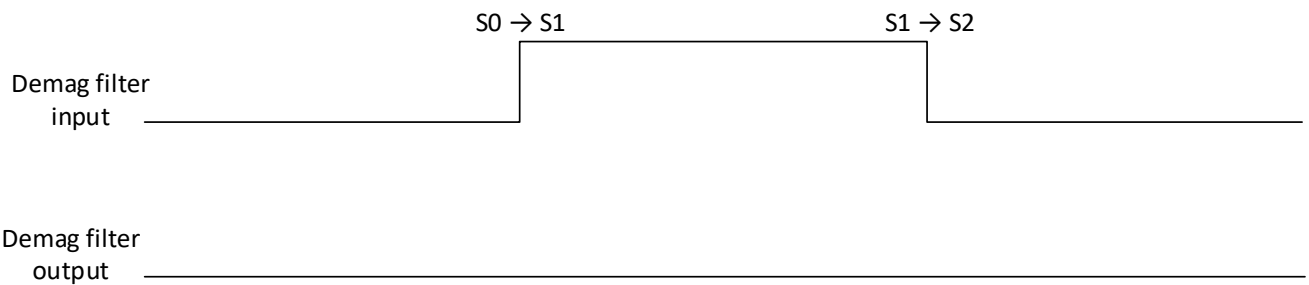

Figure 11 BEMF without demag-pulse
- BEMF without demag-pulse (Figure 11)